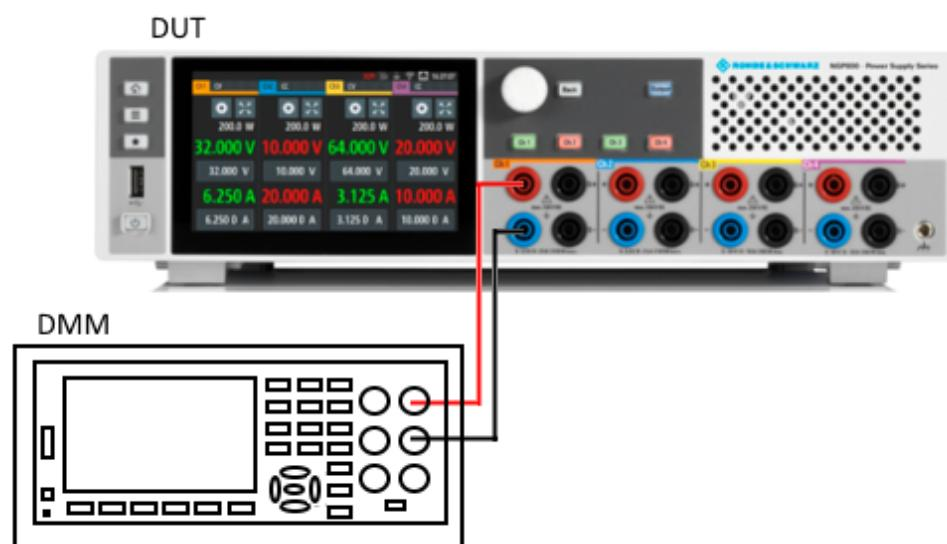
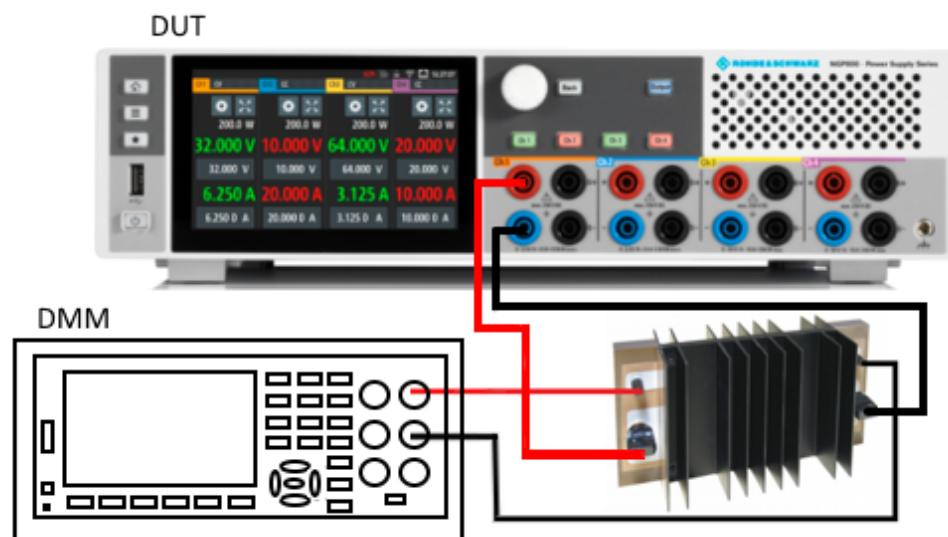

Figure 5-41: Voltage adjustment setup
Figure 5-42: Current adjustment setup
- Connect the DMM to the instrument and monitor the measured voltage or current. See Figure 5-41 and Figure 5-42.
3. Depending on the types of adjustment (voltage or current), setup the instruments illustrated in Figure 5-41 or Figure 5-42.